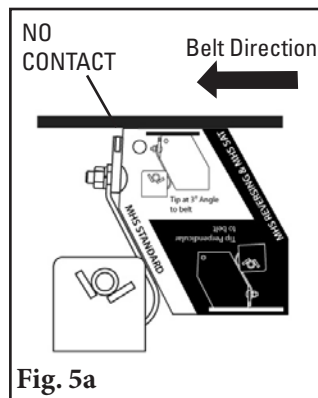

Fig. 5a
5. **Set the blade angle.** Center the pole/blades on the belt. Rotate the pole until the tips align with the white “MHS Standard” side of the tip setup gauge provided (Fig. 5a). Tighten the two locking bolts on each torsion pole mount to lock the pole in place (Fig. 5b). There should be no blade-to-belt contact while locking the pole in the correct position. If contact occurs, double check the dimension from Step 1.